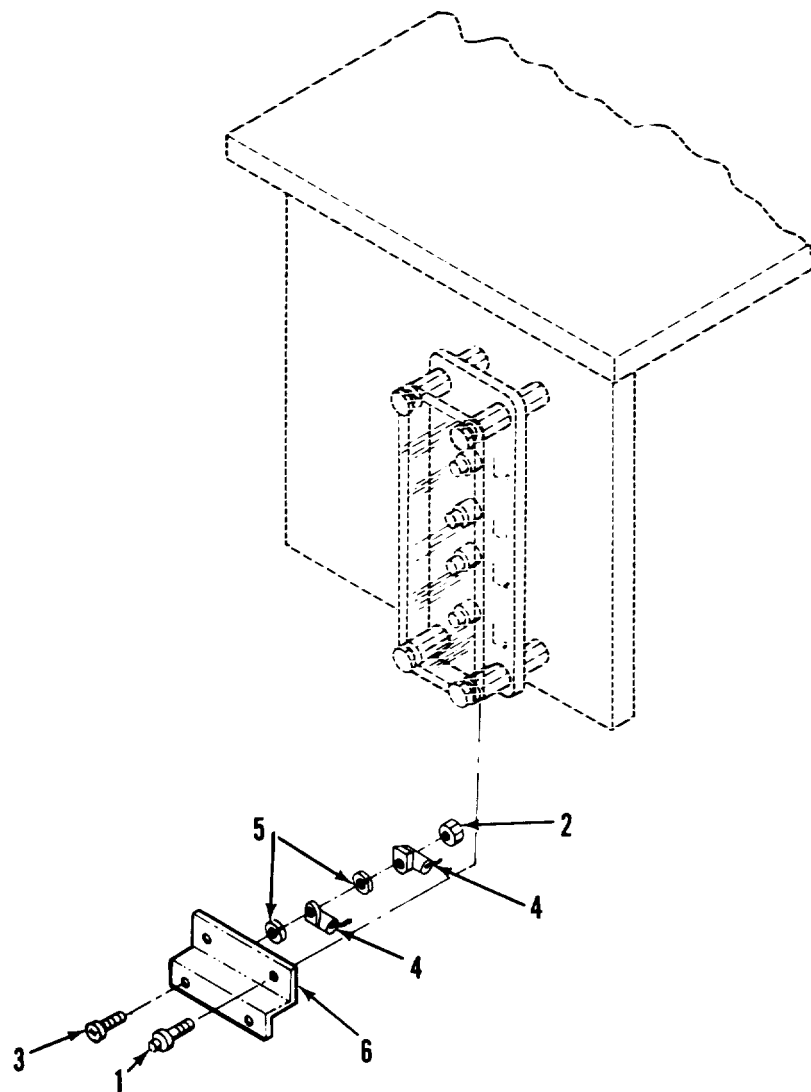

Figure 3-148. Interference Suppression Components
- (1) Remove screws (1, figure 3-148) and disconnect and tag electrical leads.
- (2) Remove nuts (2), screws (3), capacitors (4) and lockwashers (5) from bracket (6).
- (3) Reassemble in reverse order using new capacitors,